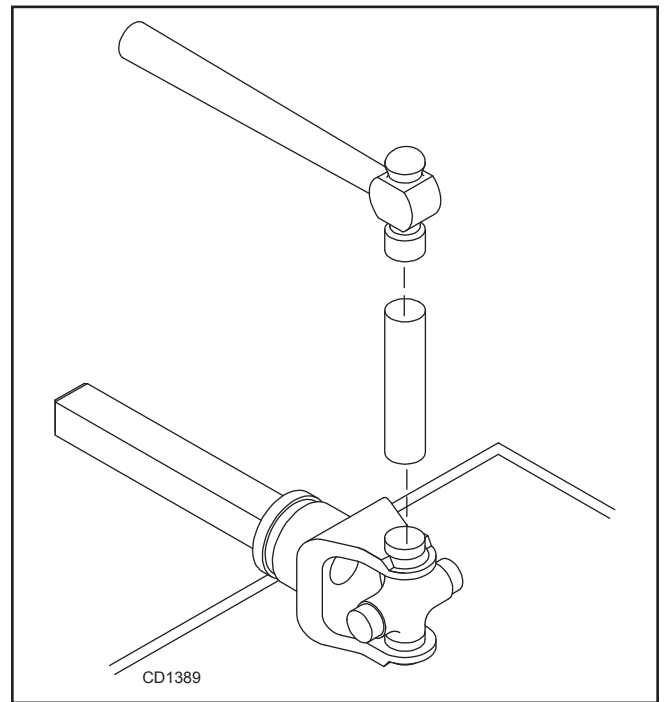

Figure 26. Install Cups
3. Seat cups by placing a drift or socket (slightly smaller than the cup) on cup and rap with a hammer. See Figure 26. Install snap ring and repeat on opposite cup.